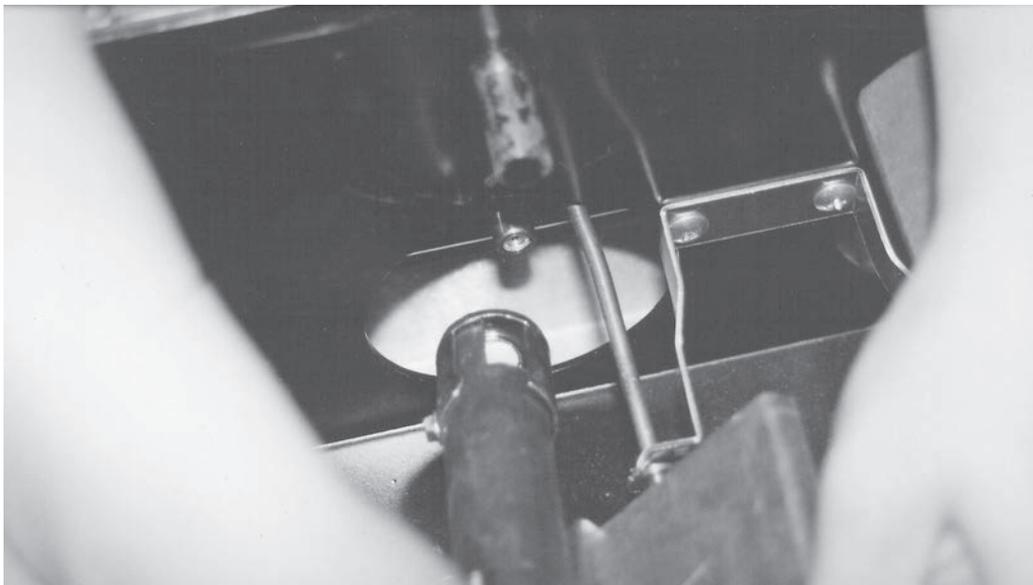

Fig. 14
5. Slide the burner/deflector assembly back towards the rear of the Charbroiler. Raise the back end of the burner/deflector assembly up slightly and lift the burner venturi from the burner valve hood. (Fig. 14)
4. Snap the pilot/tubing assembly from the pilot holding bracket. (Fig. 14)